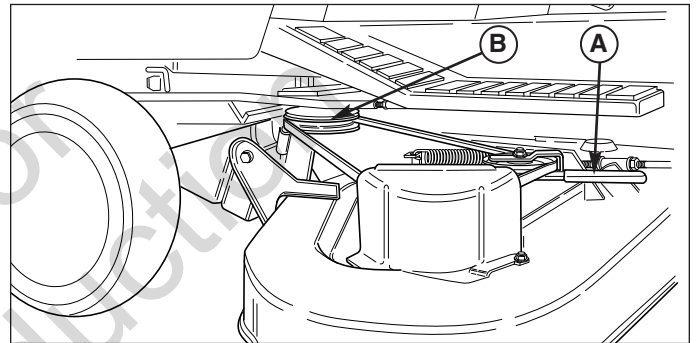

Figure 5. Removing & Installing Belt
3. Move idler arm (A, Figure 5) to relieve belt tension. Remove belt from PTO pulley (B).